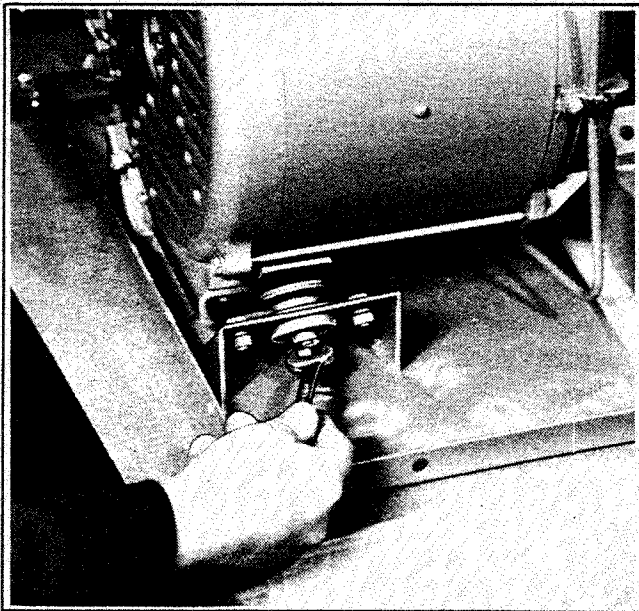

Figure 8-5. Removing Vibro-Mount Bolt
11. Remove center bolt from vibro-mounts attached to generator end bracket. Figure 8-5.